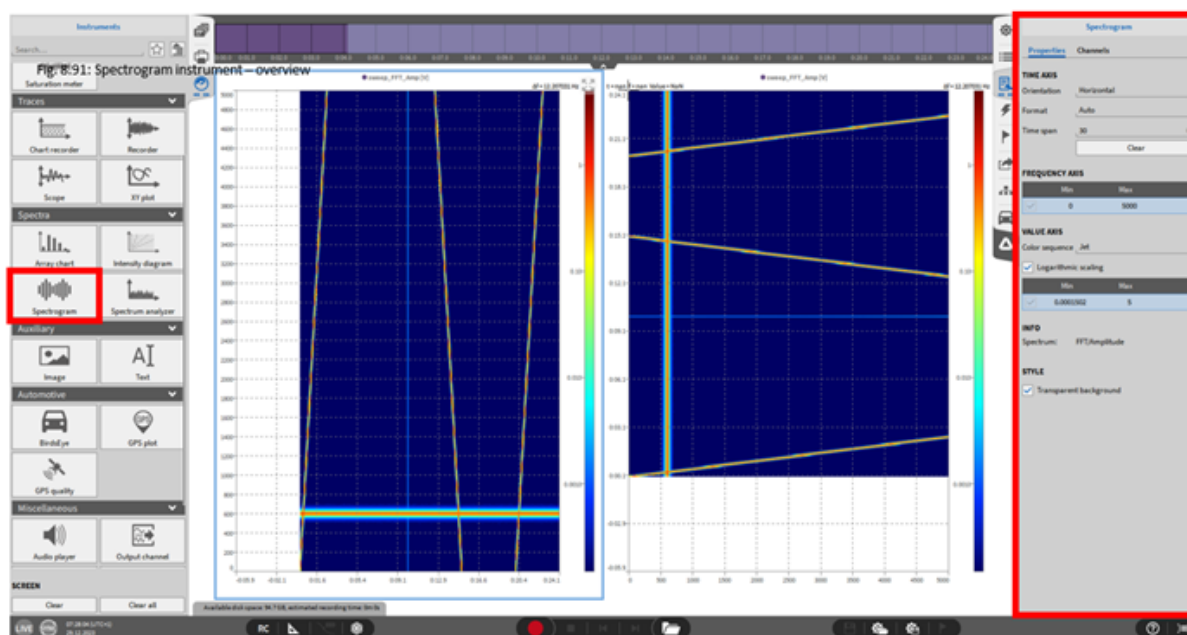

Fig. 8.99: Spectrogram instrument – overview
The elapsed time is displayed on the X-axis, the frequency on the Y-axis and the amplitude of the signal is Color-Coded to the Z-Axis (Left instrument in Fig. 8.99).
- Time Axis – Orientation: *Horizontal* orientation assigns the time axis to the X-axis of the instrument (see left instrument in Fig. 8.99) and *Vertical* orientation assigns the time axis to the Y-axis of the instrument (see right instrument in Fig. 8.99).